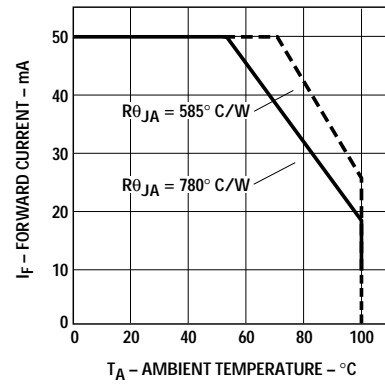

Figure 4. Maximum Forward Current vs. Ambient Temperature. Derating Based on $T_{JMAX} = 130^\circ C$.
- Derate linearly as shown in Figure 4.